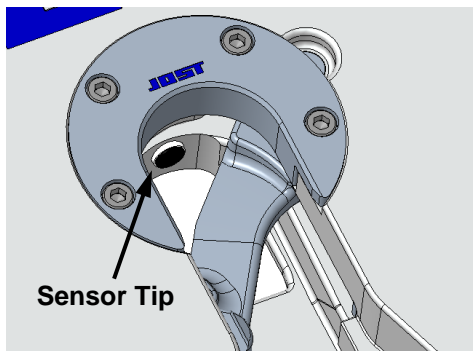

Figure 1
1. Clean the Kingpin Sensor tip (kingpin side) and remove any contaminated grease (see figure 1).
3. Check to see if the Kingpin Sensor will detect steel (see figure 1).
4. The cleaned sensor tip should be sticking out a bit from the casting (see figure 1).